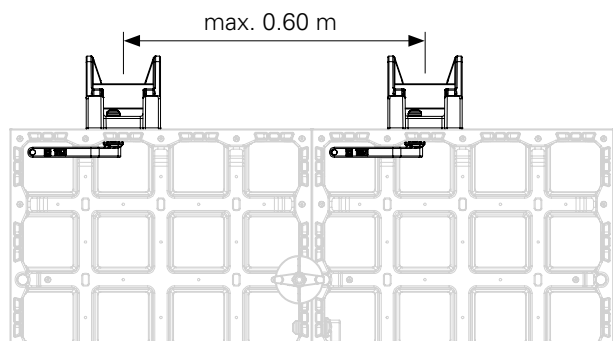

Fig. B10.12b
- Connect every DES extension support (40) to the DP 135 panel, DP 60 panel or DFP filler panel using DUO couplers (21).
- Maximum height of the filler plates (90): 0.30 m.
- Maximum width of influence: 0.60 m. (Fig. B10.12b)